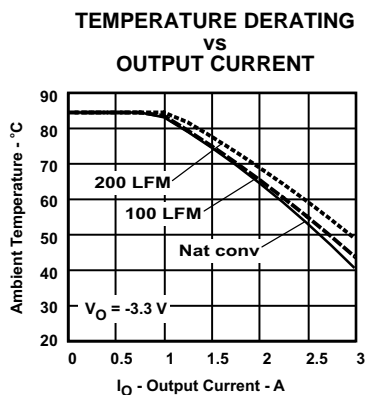
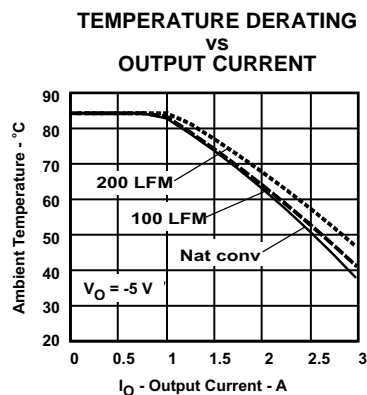

Figure 16.
Figure 17.
- (2) The temperature derating curves represent the conditions at which internal components are at or below the manufacturer's maximum operating temperatures. Derating limits apply to modules soldered directly to a 100 mm x 100 mm, double-sided PCB with 2 oz. copper. Applies to Figure 16, and Figure 17.